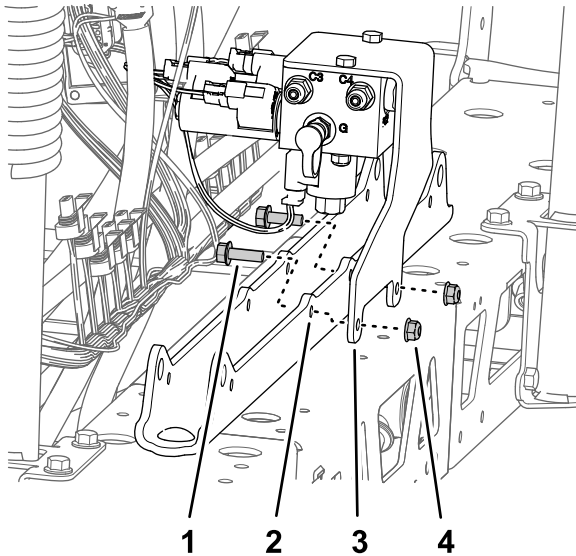

Figure 95
- A. Align the holes in the support bracket for the section-lift manifold with the holes in the cylinder mount (Figure 95).
- B. Assemble the support bracket to the cylinder mount (Figure 95) with the 2 flange-head bolt (5/16 x 1 inch) and flange locknut (5/16 inch) that you removed in step 1 of Removing the Section-Lift Manifold from the Center-Spray Section (page 25).